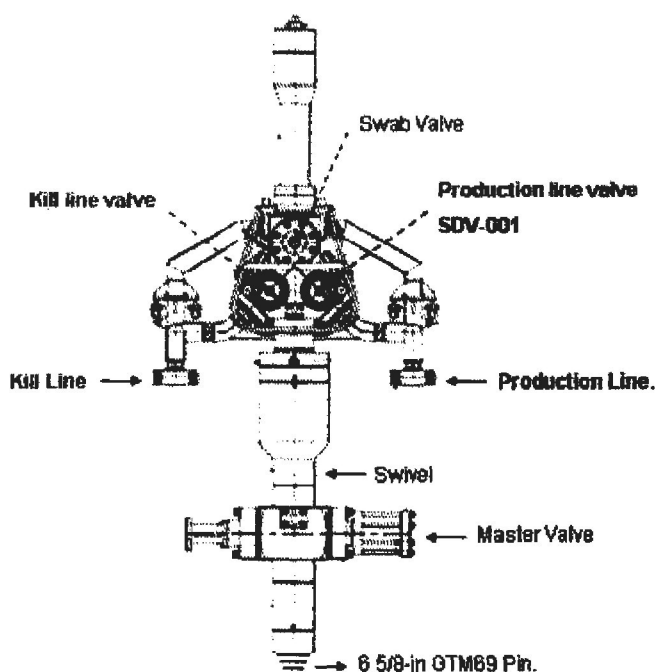

Figure 1
3. PU and MU Schlumberger's Surface Test Tree Assembly to the 6 5/8-in LDIS landing string and space out bottom of test tree assembly 15-ft above rig floor, see Figure 1 below. There are two options, that will be subject to the discretion of the rig site leader ship team based on operational and safety considerations: